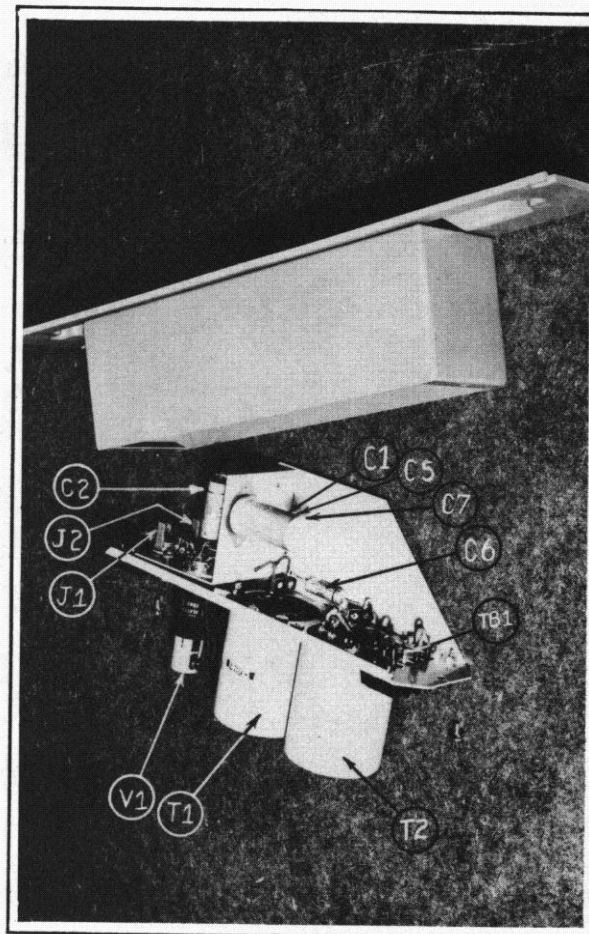

Fig. 15 - SA70 Detached From SAI350 Housing
- SA70 - Preamplifier only, basic electrical unit without any housing, see Fig: 15